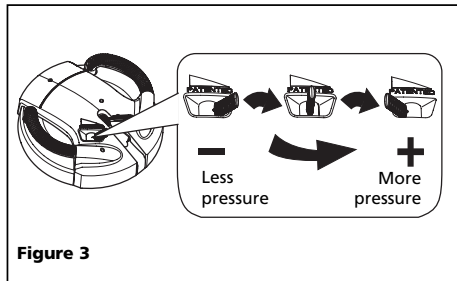

Figure 3
1. Find the pressure adjusting knob on the top of surface cleaner. Use this knob to decrease or increase pressure. Decreasing the pressure will protect softer material such as wood decks and fences. Increased pressure can be used for concrete, brick or block surfaces (see Figure 3).